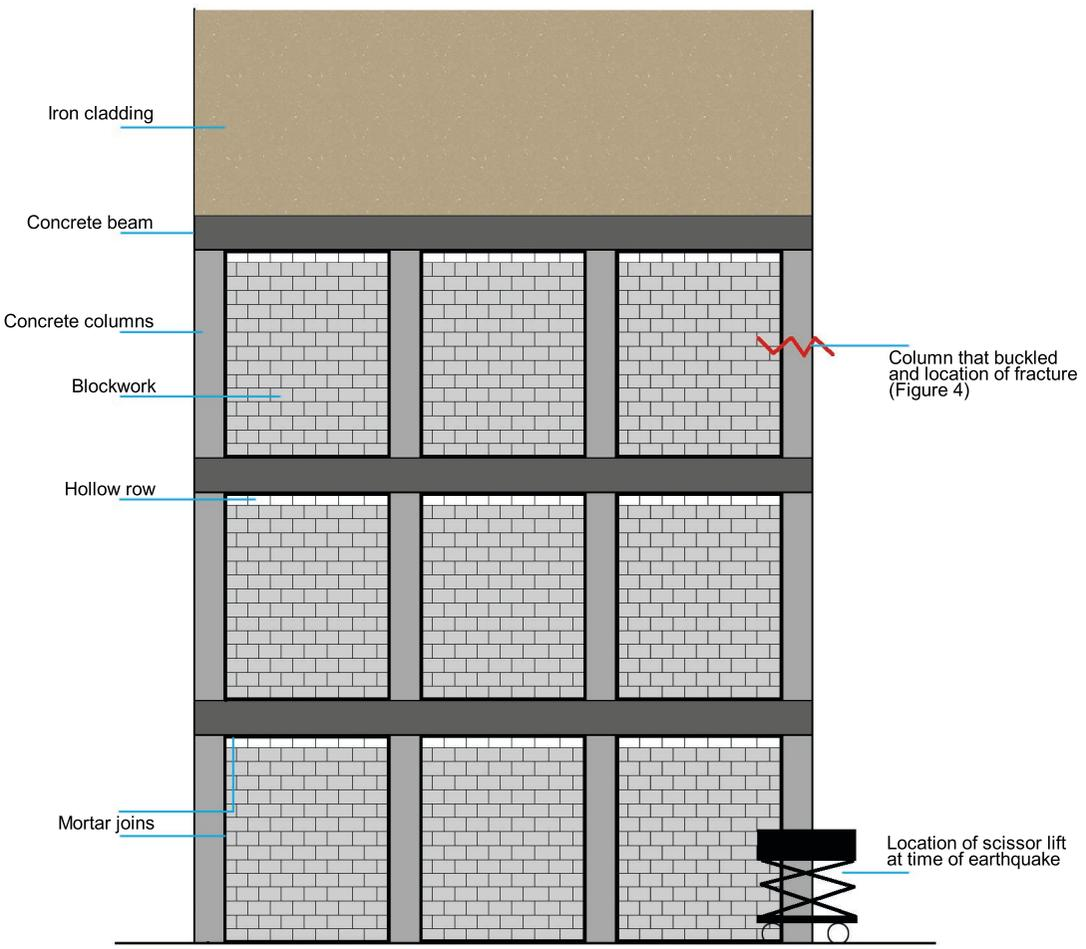
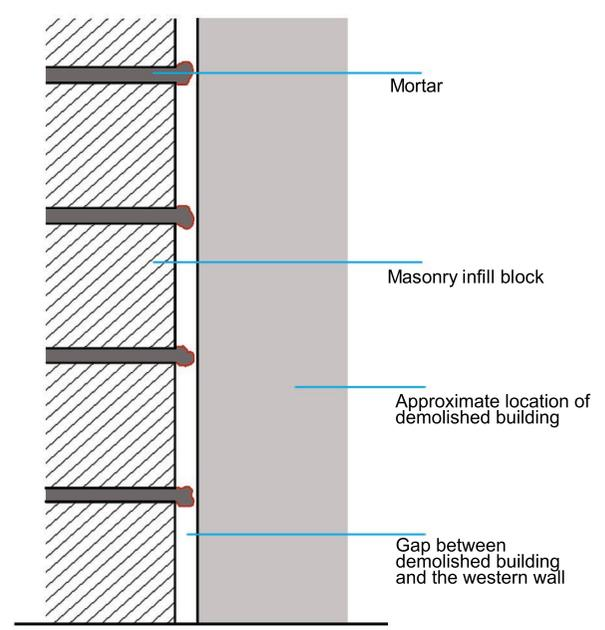
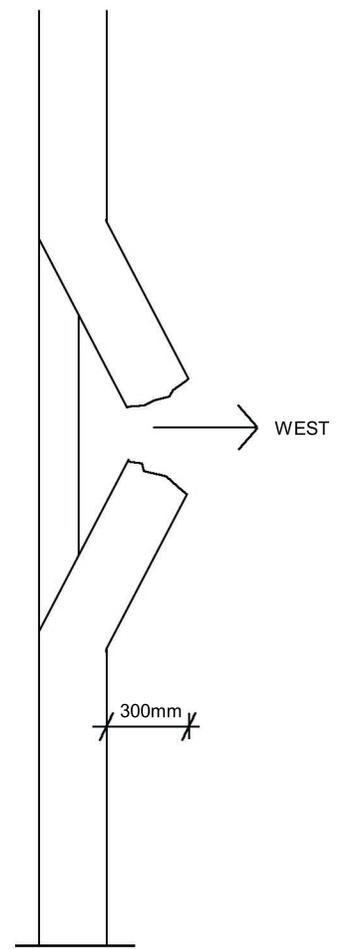

Figure 1
Figure 3
Figure 4
involved recladding the first three storeys of the Building to meet up with the existing iron cladding on the western side (Figure 1). The work began on Monday, 21 February and was expected to take a couple of days to complete. Working on the wall with me were Bruce Campbell, director of the company, and James Askew, a labourer.
9. The masonry infill blocks (masonry blocks) had been laid in a brick bond formation held together by mortar (Figure 3). Mortar was used to join the blockwork to the columns and horizontal beam. There were no gaps in the joints (Figure 1).
10. The top rows of masonry blocks in each section of blockwork were hollow (Figure 1). It may be that these masonry blocks could not be filled with concrete with the beam in the way.
12. I remember the horizontal beam was one single structure. The columns were then fused to it with concrete. There were no gaps in the joins (Figure 1).
17. We began work at 11 o'clock because it had been raining that morning. We were working on the western side of the Building preparing it for the iron sheeting. James Askew was working alongside me. Bruce Campbell had just disappeared to get us some McDonalds for lunch. James and I had taken the scissor lift about 3 metres high on the south-western corner of the Building. The location of the scissor lift is shown in Figure 1 ("B"). We were just finishing the preparation for the iron cladding and it was as I turned to ask James for the drill that the earthquake struck.
21. I then looked back at the Building to make sure nothing was coming down. It was then that I saw a column on the southwest corner of the Building, between Levels 3 and 4, that had cracked in the middle. This column - and the location of the fracture - is shown in Figure 1 (“**B**”). It appeared to me like the two bits held together by the steel had fractured outwards and the whole column was buckling under the weight. This is shown in Figure 4. It looked like the fractured sections were sticking out towards the west by about 300 millimetres.